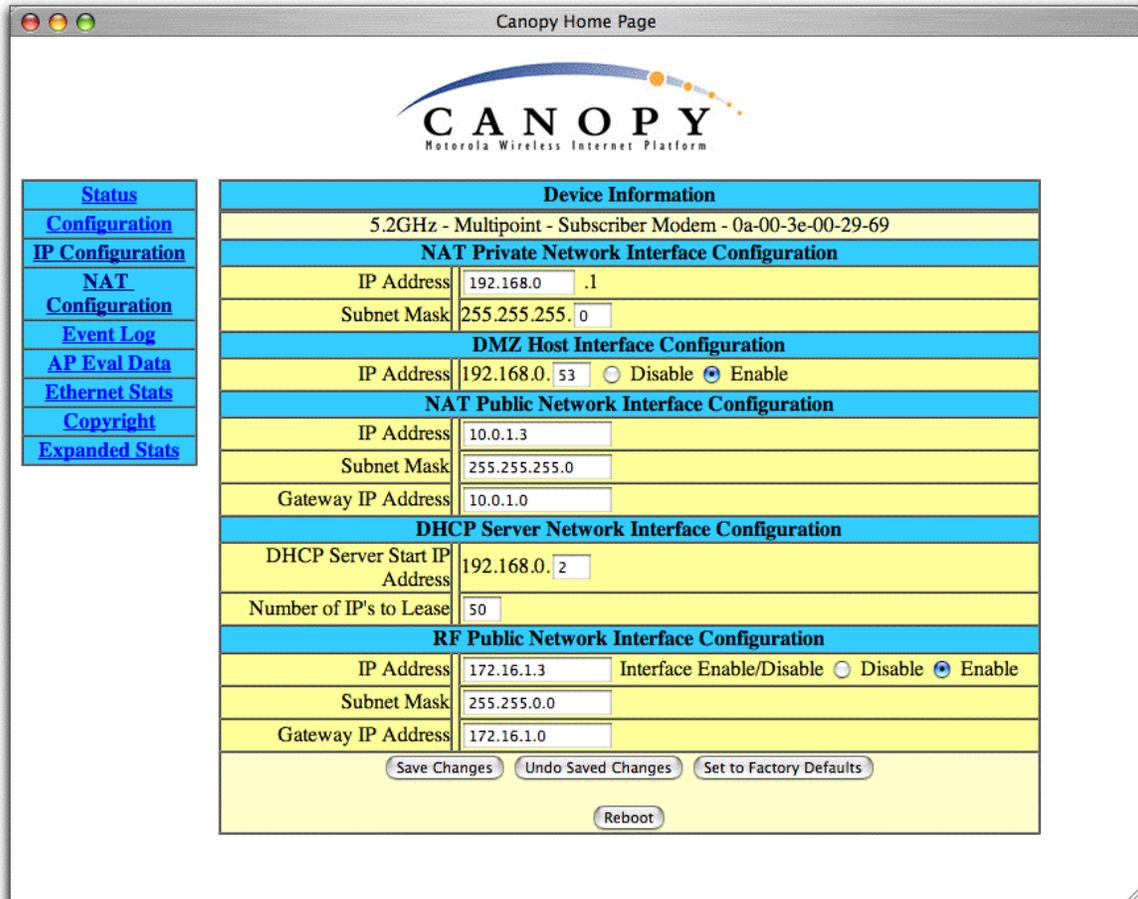

Figure 42: IP Configuration screen, NAT with DHCP server
- Figure 42 on Page 96 for the NAT with DHCP Server implementation.